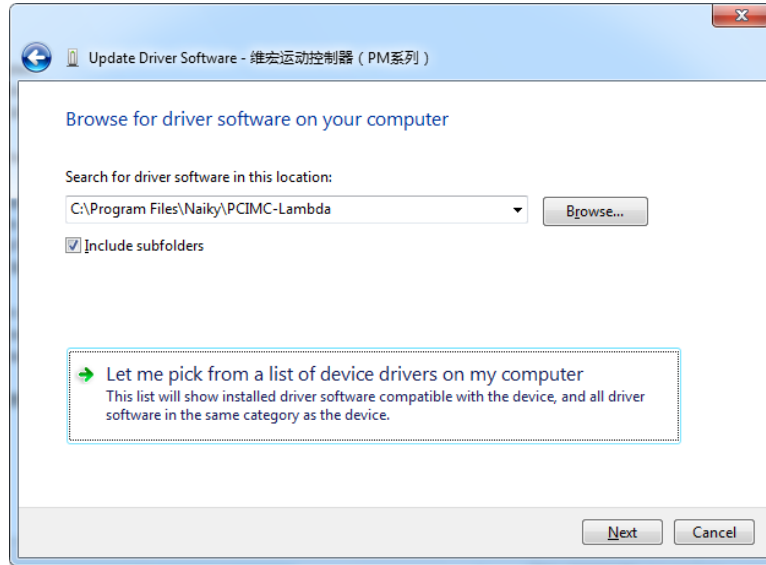

Fig. 1-4 Driver installation options
3) Select “Let me pick from a list of device drivers on my computer” and then click “Next”. See Fig. 1-4.